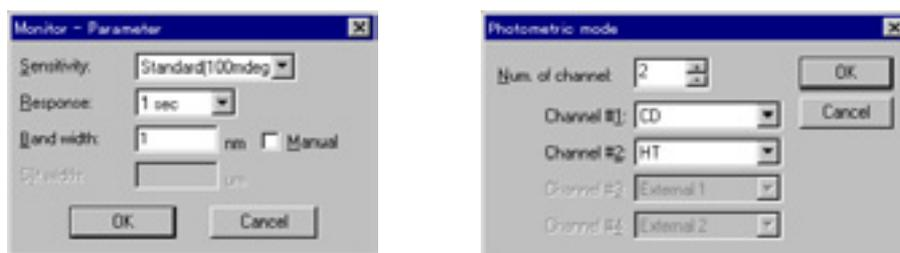

Fig. 4.5 Setting measurement parameters (energy check)
- (1) Start up the [Data Monitor] program.
- (2) Select the [Parameter...] and [Data Mode...] commands from the [Setting] menu and designate the monitoring parameters shown in Fig. 4.5.